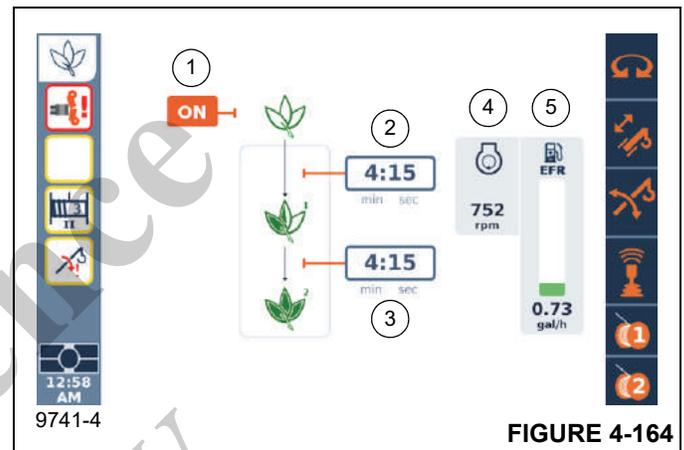

FIGURE 4-164
The ECO Mode function screen (Figure 4-164) allows the operator to set the ECO Mode function to on or off. The function screen also allows the operator to specify the lengths of time of crane function inactivity before the crane's engine speed is reduced from the working engine speed to the two idle speeds.
The ON/OFF icon (1, Figure 4-164) is used to set the ECO Mode function to on or off.
- Engine speed will automatically decrease to the idle speed of 1200 rpm after all craning functions have stopped (controllers in neutral position) and the time period that was specified in the Idle Speed 1 Time Delay Setting (2, Figure 4-164) has past.
- Engine speed will automatically decrease to the idle speed of 750 rpm after all craning functions are disabled and the time period that was specified in the Idle Speed 2 Time Delay Setting (3, Figure 4-164) has past.
1. Press the Screen Toggle Button (1, Figure 4-165) at the Jog Dial to select the ODM screen control. Using the Jog Dial (2, Figure 4-165), select one of the time delay number fields (box around number will turn orange, Figure 4-164), then press the Jog Dial (2) (number will turn white with orange background).
Using the Arrow Buttons (3, Figure 4-165) on the Navigation Control Pad at the ODM, select one of the time delay number fields (box around number will turn orange, Figure 4-164), then press the OK Button (4) (number will turn white with orange background).